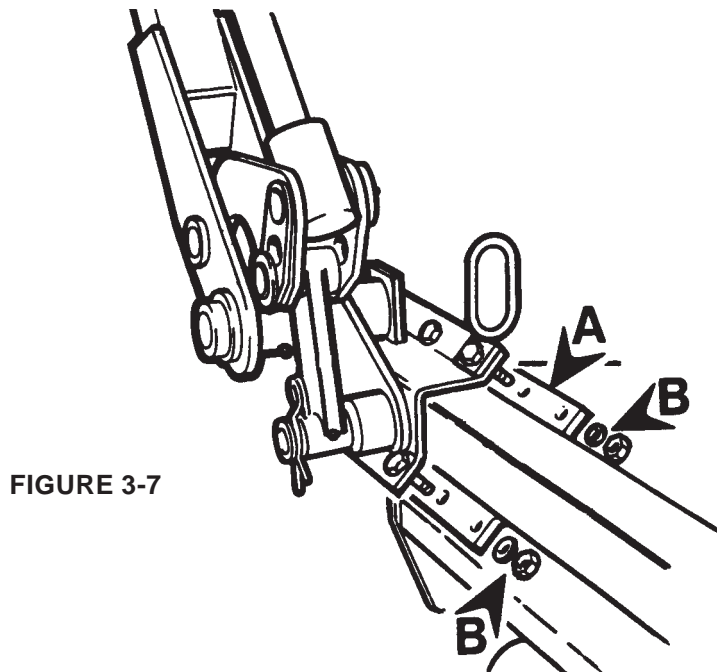

FIGURE 3-7
- E. Remove clamp bracket **FIGURE 3-7 (A)** from the end of arms.
- F. Adjust position of the arms until the mower head clamp is lined up with the clamping bar on top of the rotor unit in the desired position along the bar. (See **FIGURE 3-7**).
- G. Replace clamp bracket **FIGURE 3-7 (A)** and nut and washers **FIGURE 3-7 (B)**. Tighten fully.